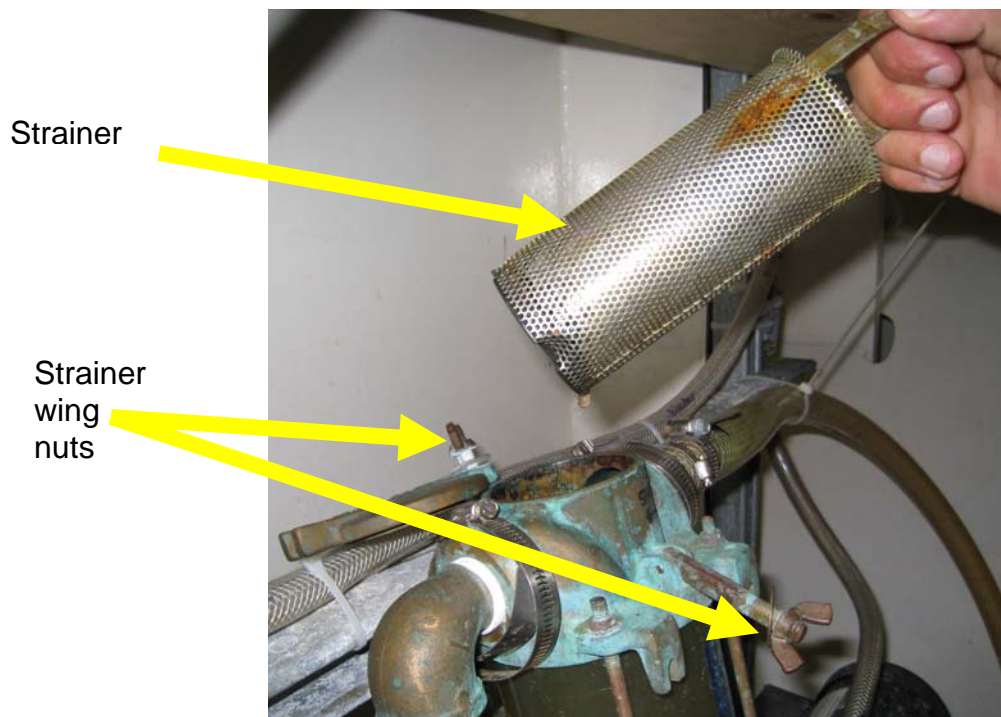

Figure 7. Strainer
4. Check the strainer (Fig. 7). The strainer should stay relatively clear and free of debris. If the strainer is full of marine debris the basket will need to be cleaned. The procedures for cleaning the strainer are described in the next section.
4. Remove the strainer cap by twisting the wing nuts on top of the strainer (Fig 7).